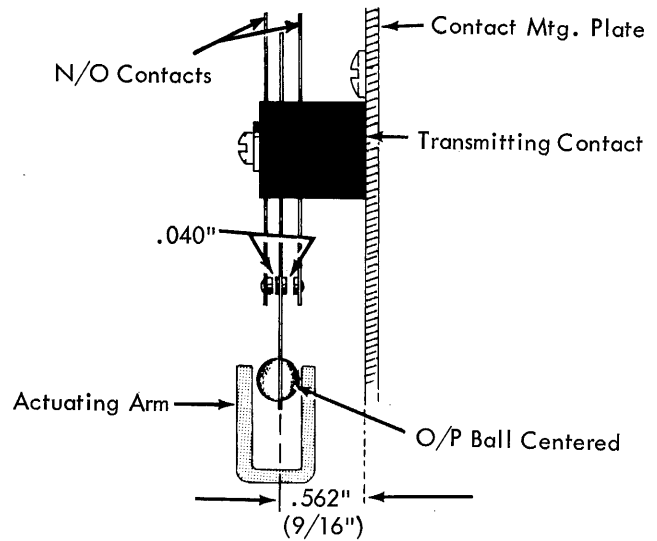

FIGURE 84. Contact Actuating Arm
3. Contact Actuating Arm (Fig. 84) - Position (with the cam follower roller held against the detented shift cam) so that the O/P ball is centered between the actuating arm tabs.
4. Transmitting Contacts Air Gap (Fig. 84) - Form the N/O contacts to clear the O/P's by .040".